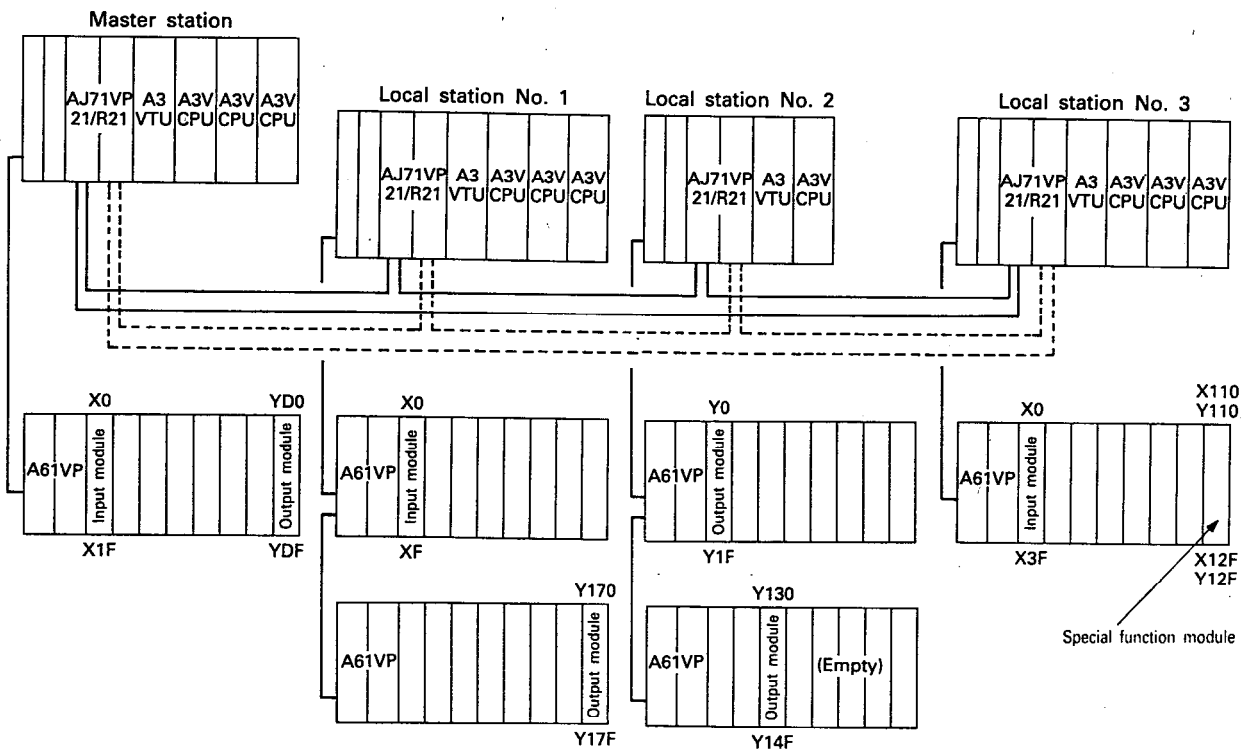

Fig. 6.2 Local System Configuration Example
The assignment methods of link relays (B), link registers (W), inputs (X), and outputs (Y) are described below using the example shown in Fig. 6.2.
An example of link input (X) and link output (Y) assignments is shown in the imagined system configuration of Fig. 6.2.